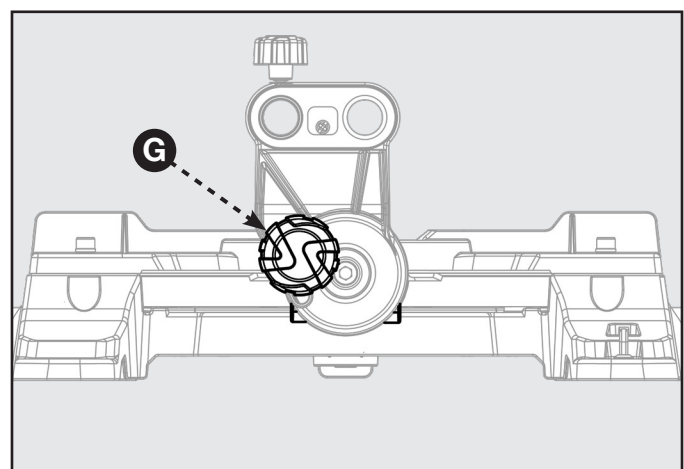

FIGURE 14
10. If the top or bottom of the blade face is not flush with the square, refer to Figure 14 below and perform the following steps.
11. Loosen bevel lock knob (G).